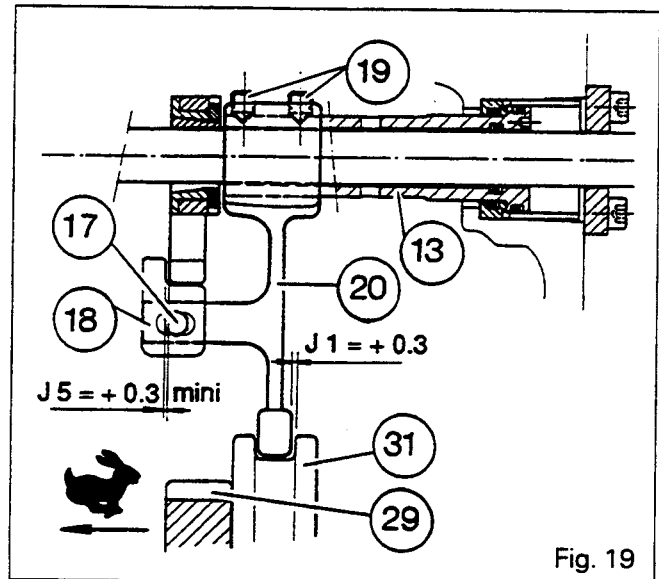
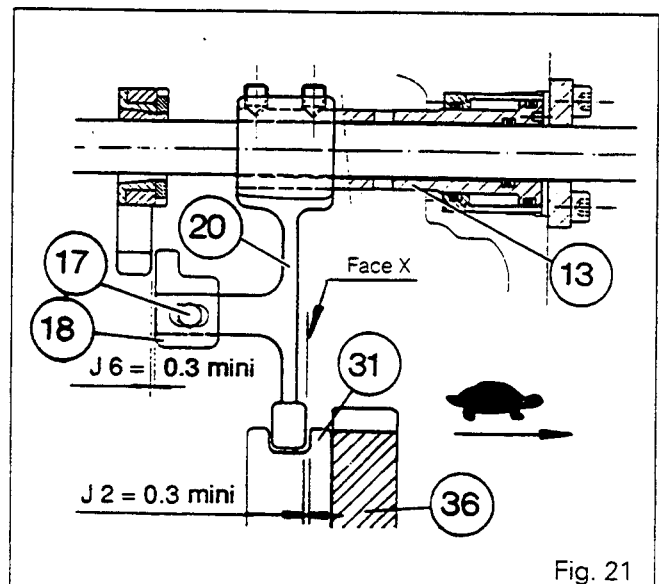
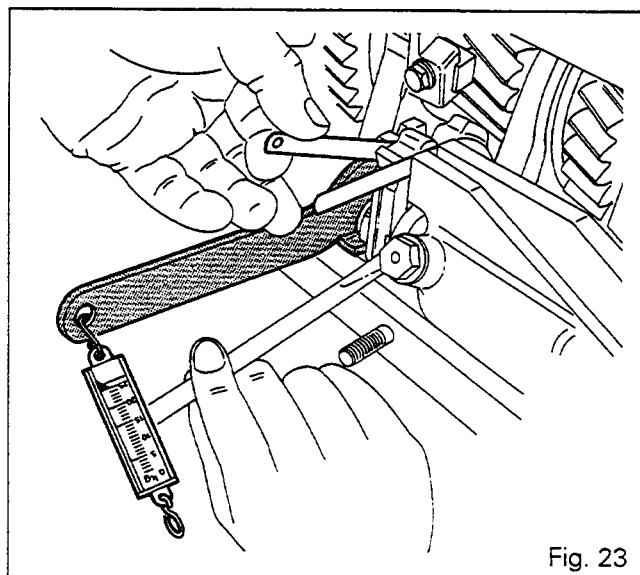

Fig. 19
Fig. 21
Fig. 23
76. Hold the synchromesh against the high range gear (29). (See Fig. 19).
77. Adjust the position of the fork (20) by acting on the two adjusting screws (19) after cleaning them with solvent and coating them with Loctite 221, in order to obtain a play of **J1 = 0.3 mm** between the rear face of the pad and the synchromesh slide rod (Figures 19 and 20).
78. Set the control piston (13) and the synchromesh to the low range (Tortoise).
79. Check that there is a play of **J2 = 0.3 min.** (value determined by setting J1) between the pad and the synchromesh slide rod, with the slide rod resting against the low range gear (36) (Fig. 21). Tighten the screws to a torque of 35 Nm without modifying the setting.
**Note: In the Tortoise position, play J1 must be increased if face X of the pad on fork (20) is bearing against the synchromesh slide rod (Fig. 21).**
81. Slightly loosen the castellated nut (21). Apply a moderate coat of Loctite 270 on the thread of cone (24).
84. Tighten the castellated nut (21) to a torque of 50 Nm using a spanner 3615334 M1 and a spring scale (Fig. 23).
85. Apply Loctite 648 on the tightening face of the slider (18) and Loctite 241 on bolt (17). Fit the washer and the bolt.
86. Adjust plays J5 and J6 (min. = 0.3 mm) evenly between the slider and the lock in the Hare and Tortoise positions (Figures 19 to 21 and 24).